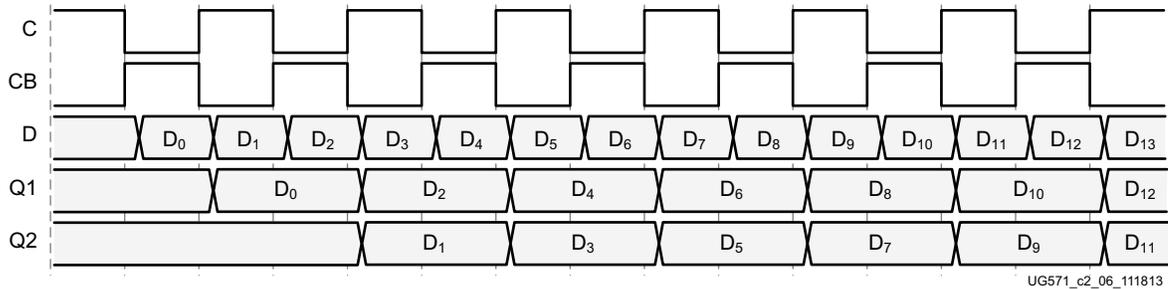

Figure 2-6: Input DDR Timing in SAME_EDGE Mode
In the SAME_EDGE mode, the data is presented into the device logic on the same clock edge. Figure 2-6 shows the timing diagram of the input DDR using the SAME_EDGE mode. In the timing diagram, the output pairs Q1 and Q2 are no longer (0) and (1). Instead, the first pair presented is pair Q1 (0) and Q2 (don't care), followed by pair (1) and (2) on the next clock cycle.